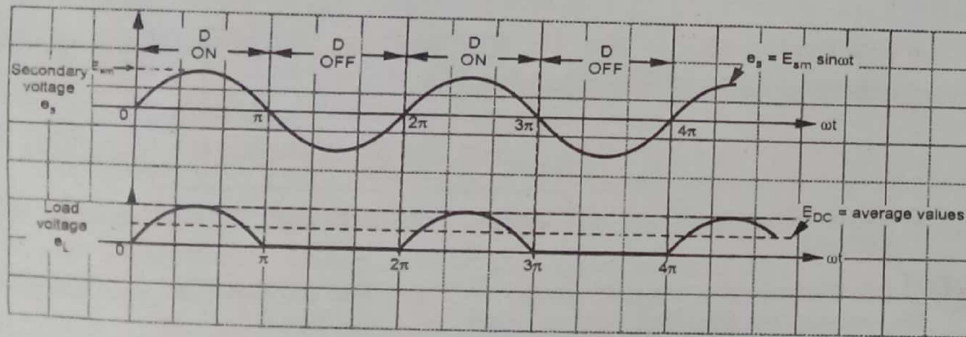

Fig. Q.18.3 Load current and load voltage waveforms for half wave rectifier
- The load voltage, being the product of load current and load resistance, will also be in the form of half sinusoidal pulses. The different waveforms are illustrated in Fig. Q.18.3.